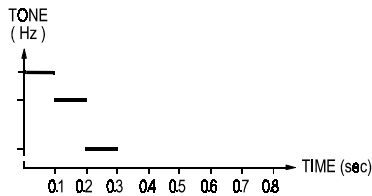

Figure 7. Acknowledge Melody
Note: Upon reception of kissoff or handshake codes, the system transmits a rapid 3-tone descending ACKNOWLEDGE MELODY over the telephone line (see Fig. 7), and then stops redialing the Response Center's telephone numbers for the current event.
- An "Acknowledge melody" (Fig. 7) is sent from the AUTOCOM-100 to the response center when a command is received and carried out. This melody can be easily identified when heard through the speakerphone.